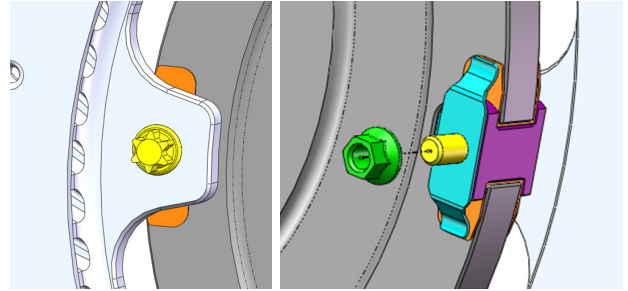

Fig 3: Bolt, clip and nut fitment.
Step 4: Insert the bolt through the disc flange and locate the clip before fitting the nuts. (Fig 3.)